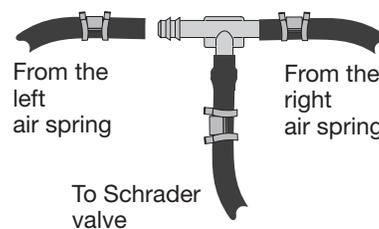

Figure 5
2. Use this procedure (Fig. 5) for all air line connections: